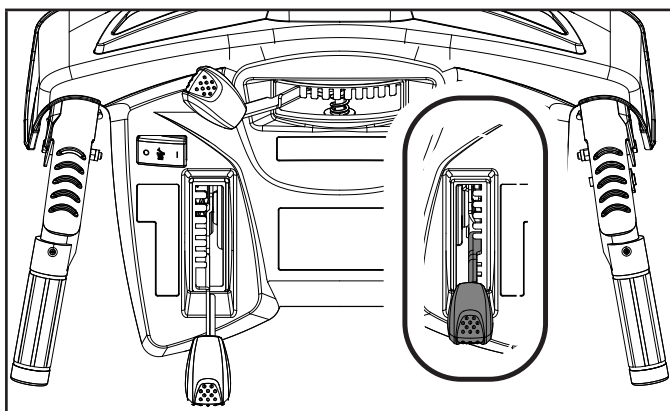

Figure 15
1. Forward speeds range from slowest position 1 to fastest position 6. Reverse speeds range from slowest position R1 to fastest position R2 (Fig. 15).